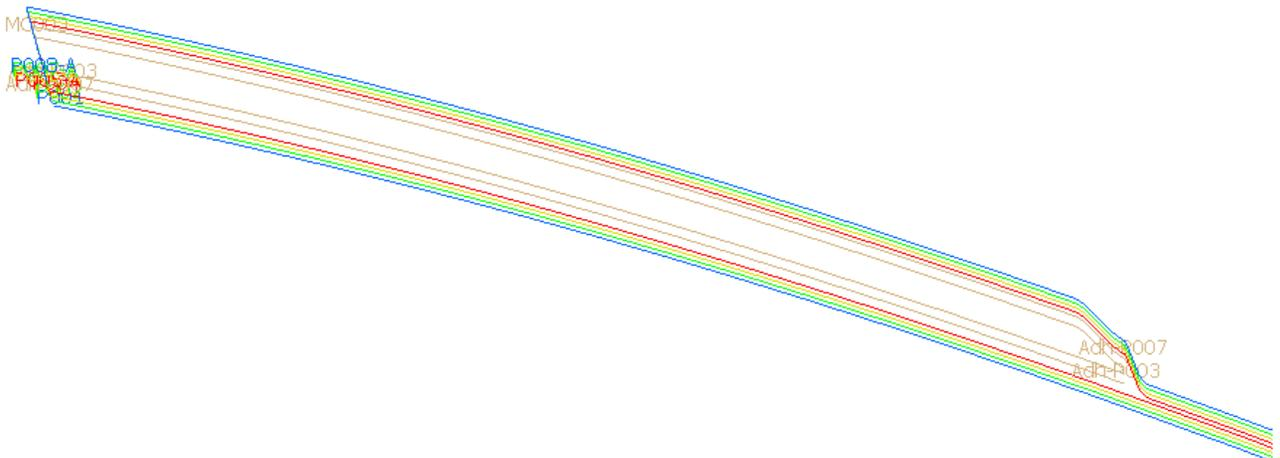

Figure P3-6
3. The cross section for Core 3 is shown in Figure P3-6.